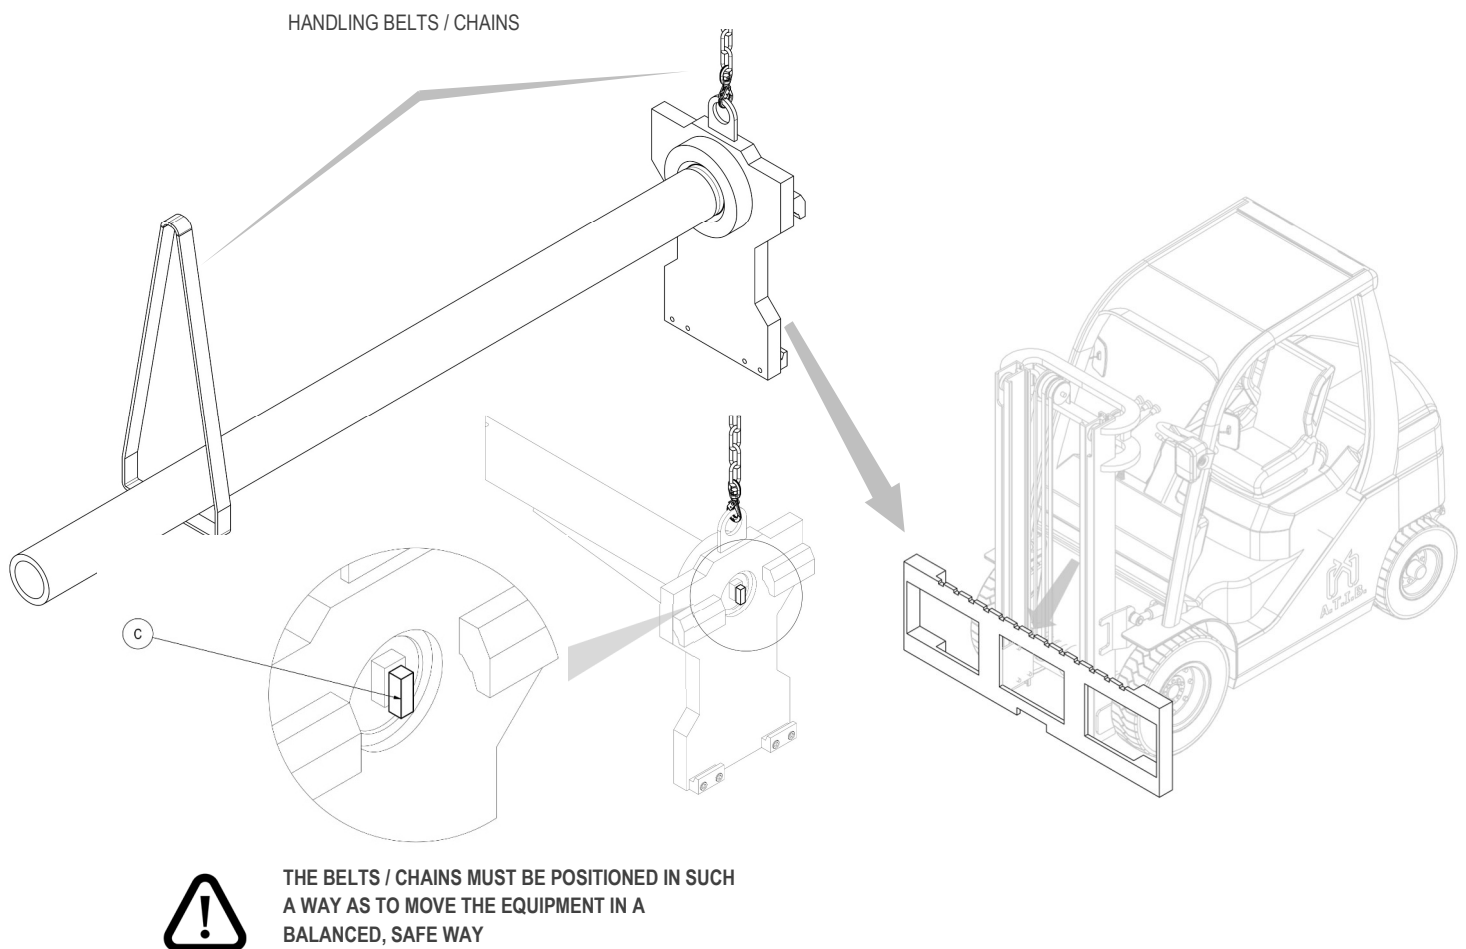

Figure 3
- Hook the equipment with an overhead crane or a hoist of sufficient capacity and place it on the fork carriage plate, taking care to engage the centring pin **C** in its central notch (see Figure 3).